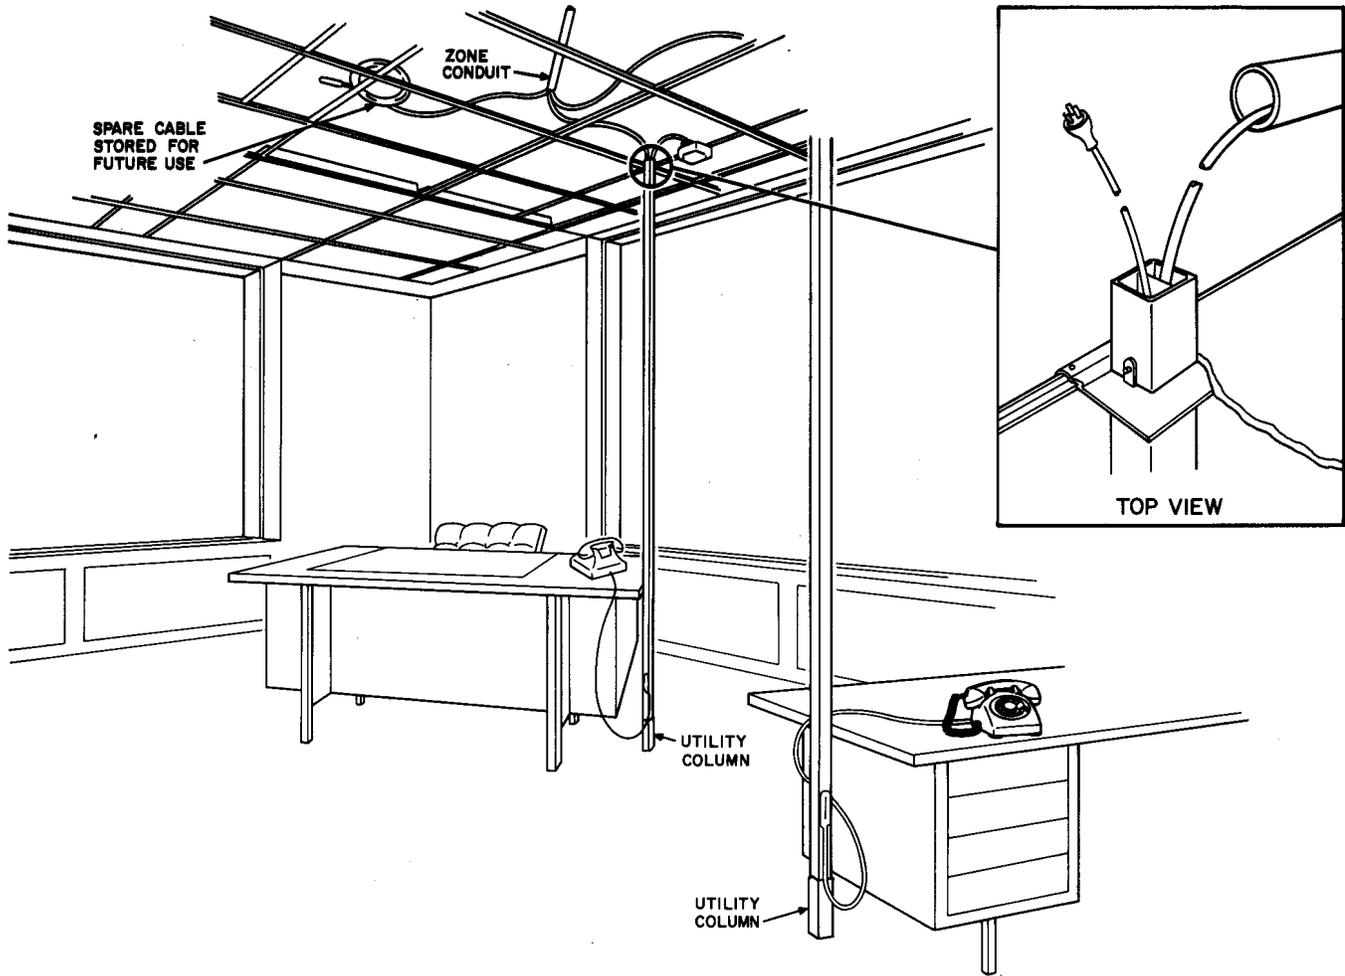

Fig. 9—Wiring Method With Utility Columns
11.01 A utility column is a post placed between the ceiling and floor in conjunction with the ceiling distribution system as shown in Fig. 9. It is used for the concealment of communications wiring from the ceiling to the desk. It can also be used as an extension of electrical outlets for the same purpose.